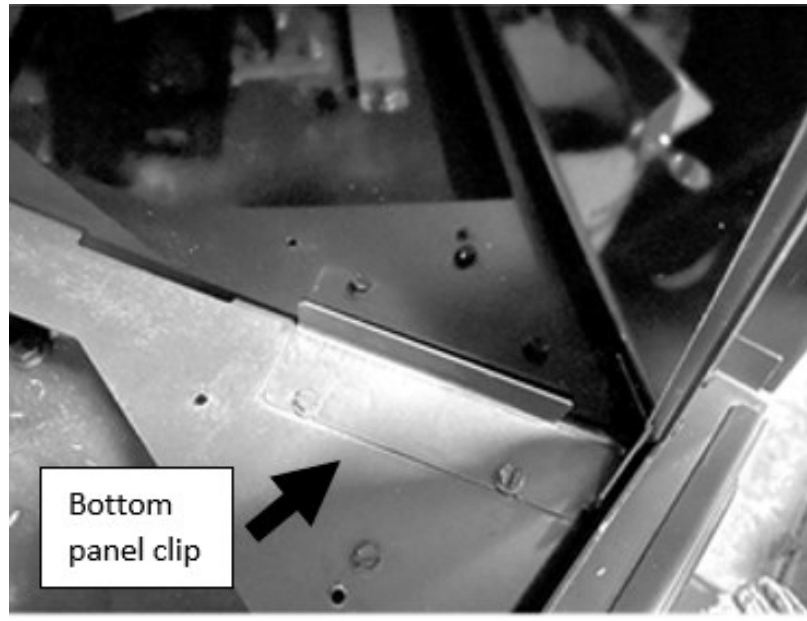

Figure 9.7 - Black glass bottom panel clip
1. Remove (4) screws securing existing bottom refractory panel spacers, Retain screws, discard spacers.
3. Install side refractory by sliding top of panel up and into position. Slide bottom of refractory until tight to side of firebox. Secure side refractory with bottom panel clips (included in kit) using (4) saved screws (Figure 9.7).